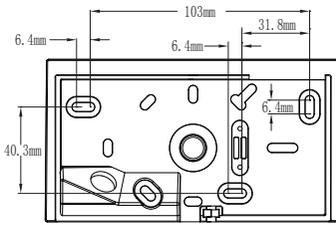

figure 1
- (1) turn off the power.
- (2) open the upper cover and remove the base before installation.
- (3) connect the power cord to the terminal according to the wiring mark .
- (4) install the bottom cover in the selected position according to figure 1.
- (5) fix the lamp body on the base and install the upper cover.